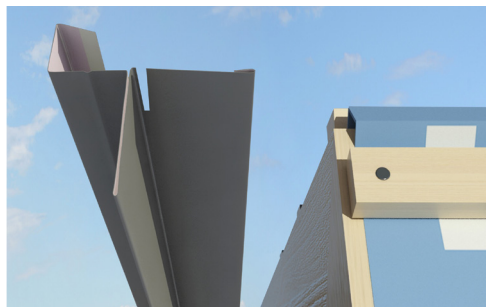

Fig.7. Cut Slot
2. Cut away a slot 30mm x 5mm behind the down leg (Fig.7).